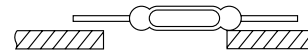

Fig. 7 Precautions to be taken when mounting reed switch on printed wiring board
(4) When the reed switch is mounted so as to be aligned with a cutout formed in the printed wiring board, attention must be paid to the shape of the printed wiring board and mounting work so as to prevent the glass tube from running onto the printed circuit board. See Fig. 7.
(5) The cutting of the lead terminals soldered to the printed circuit board by a diamond cutter must be avoided. Otherwise the sensitivity (a clearance between the contacts) of the reed switch will change.